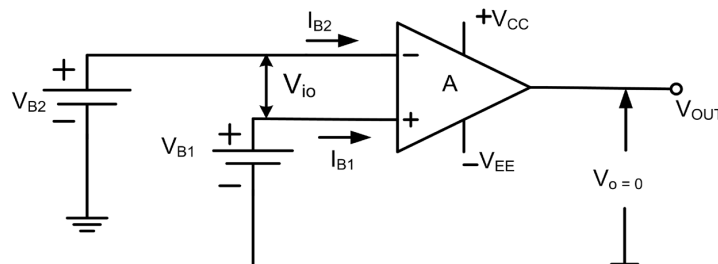

Fig. 2.4: Input bias currents  $I_{B1}$  and  $I_{B2}$ ; and offset voltage  $V_{io}$
**Input offset current ( $I_{io}$ ):** The input offset current is the difference between the separate currents entering the input terminals of a balanced amplifier. Referring to Fig.2.4
**Input bias current ( $I_B$ ):** The input bias current  $I_B$  is the average value of the current flowing into input terminals with the output at zero volt. From Fig. 2.4,